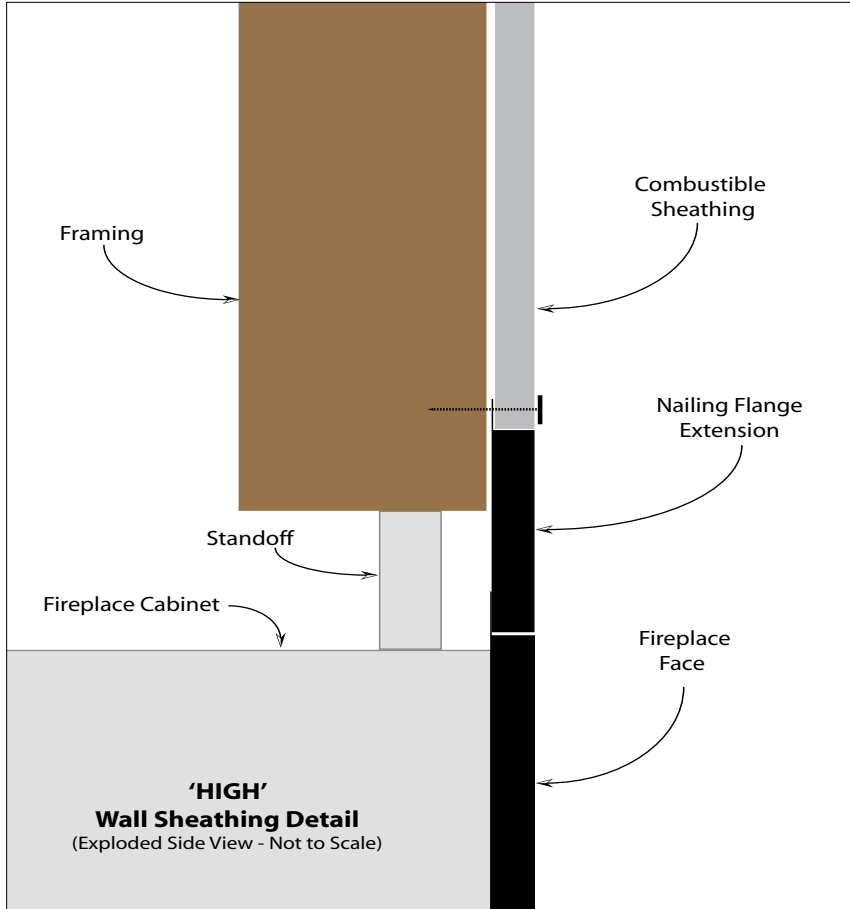

Figure 4
3) With the **High** style of sheathing, the enclosed nailing flange extension **MUST** be used and **COMBUSTIBLE MATERIAL MUST NOT EXTEND BELOW THE NAILING FLANGE EXTENSION** (see Figure 4). This method, while perfectly acceptable, exposes about ten inches of black metal trim above the glass door. Only part of this trim can be covered by the optional European Home surround. This is the least popular method of sheathing because it exposes the largest surface area of black trim.